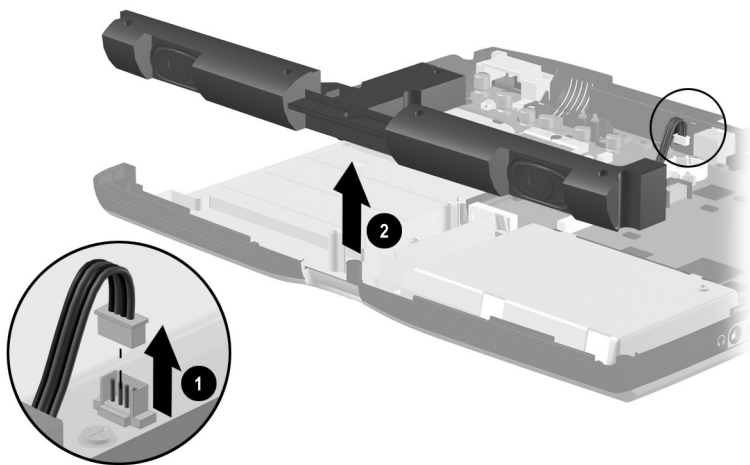

Figure 5-30. Removing the Speaker Assembly
2. Disconnect the speaker cable ❶ from the audio board (Figure 5-30).
3. Lift the speaker assembly straight up ❷ and remove it from the base enclosure.